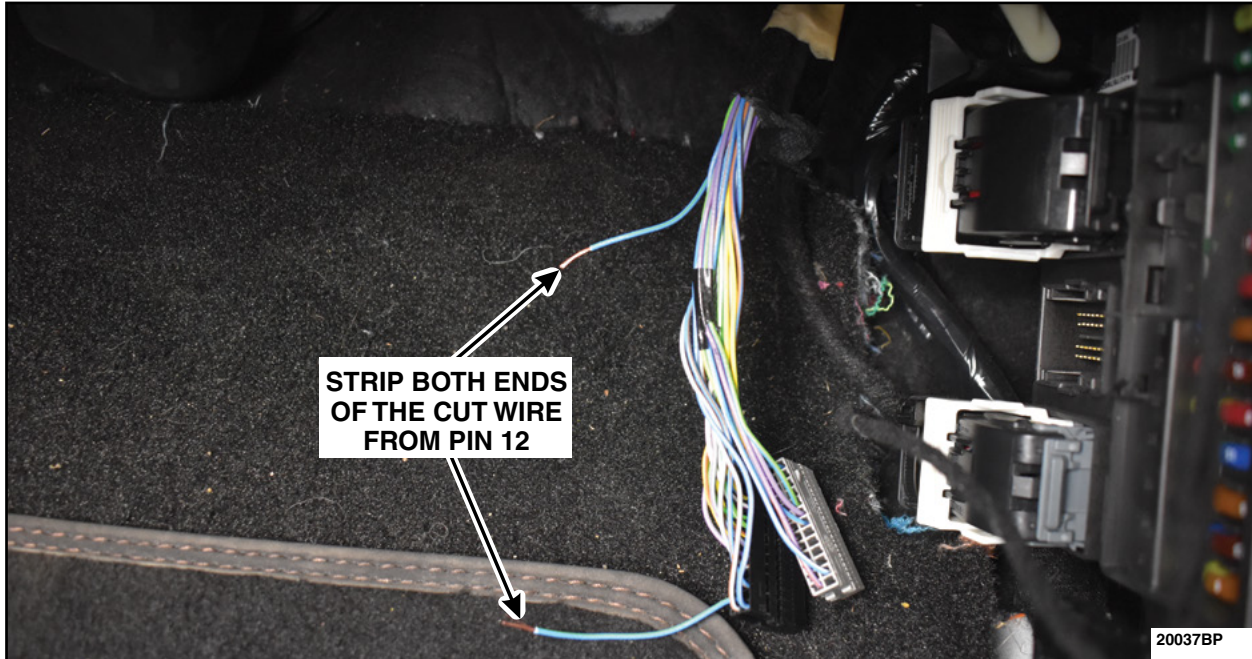

FIGURE 37
55. Strip both ends of the cut wire from pin 12. See Figure 37.